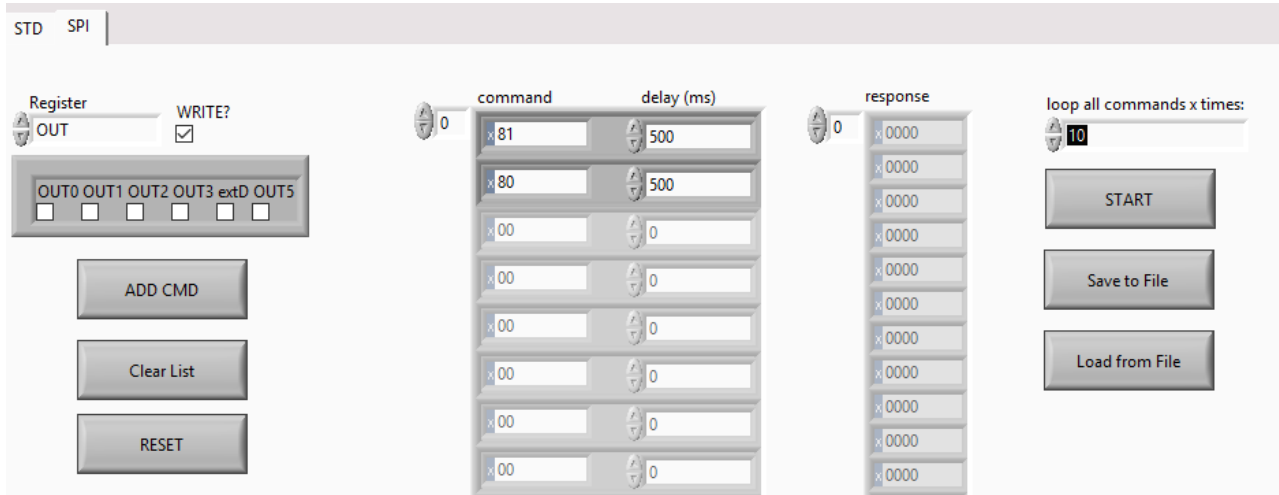

Figure 35 - change number of command sequences iterations
- Change loop all commands x times to 10 (See Figure 35)